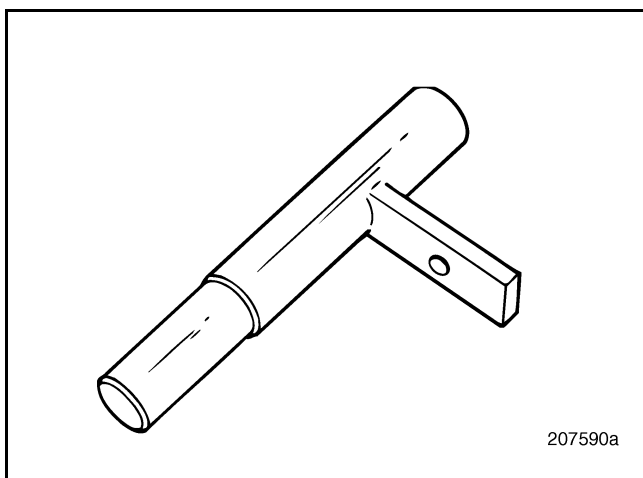
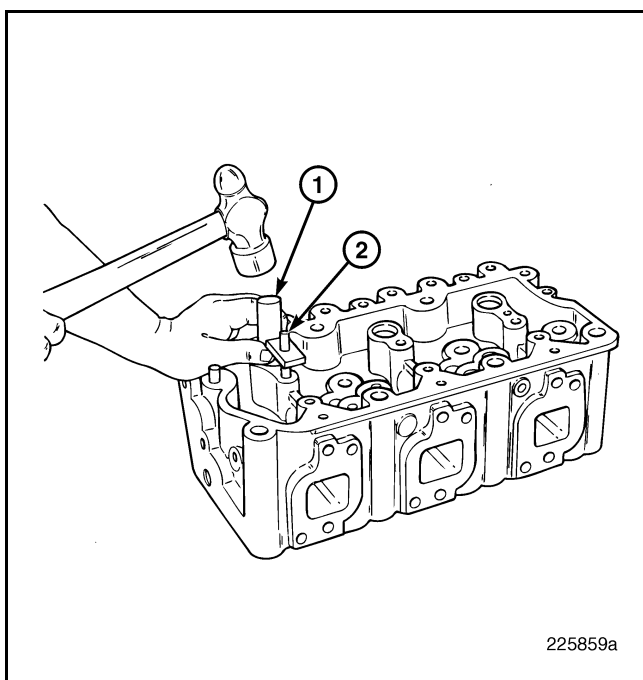

Figure 203 — Nozzle Sleeve (Insert) Installer
Figure 204 — Injection Nozzle Holder Insert Installation
4. Install the alignment pin and using nozzle insert installer J 42595, drive the insert into the cylinder head until it bottoms on the lower counterbore face. Refer to Figure 203 and Figure 204.